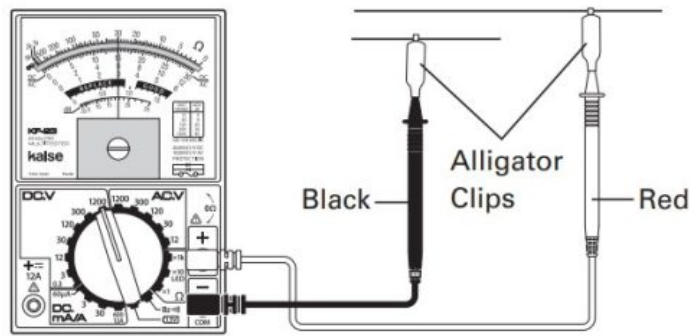

Fig. 1
**WARNING 4.** Warning for Dangerous Voltage Measurement For dangerous high voltage measurement, strictly observe the warnings below (see Fig. 1).